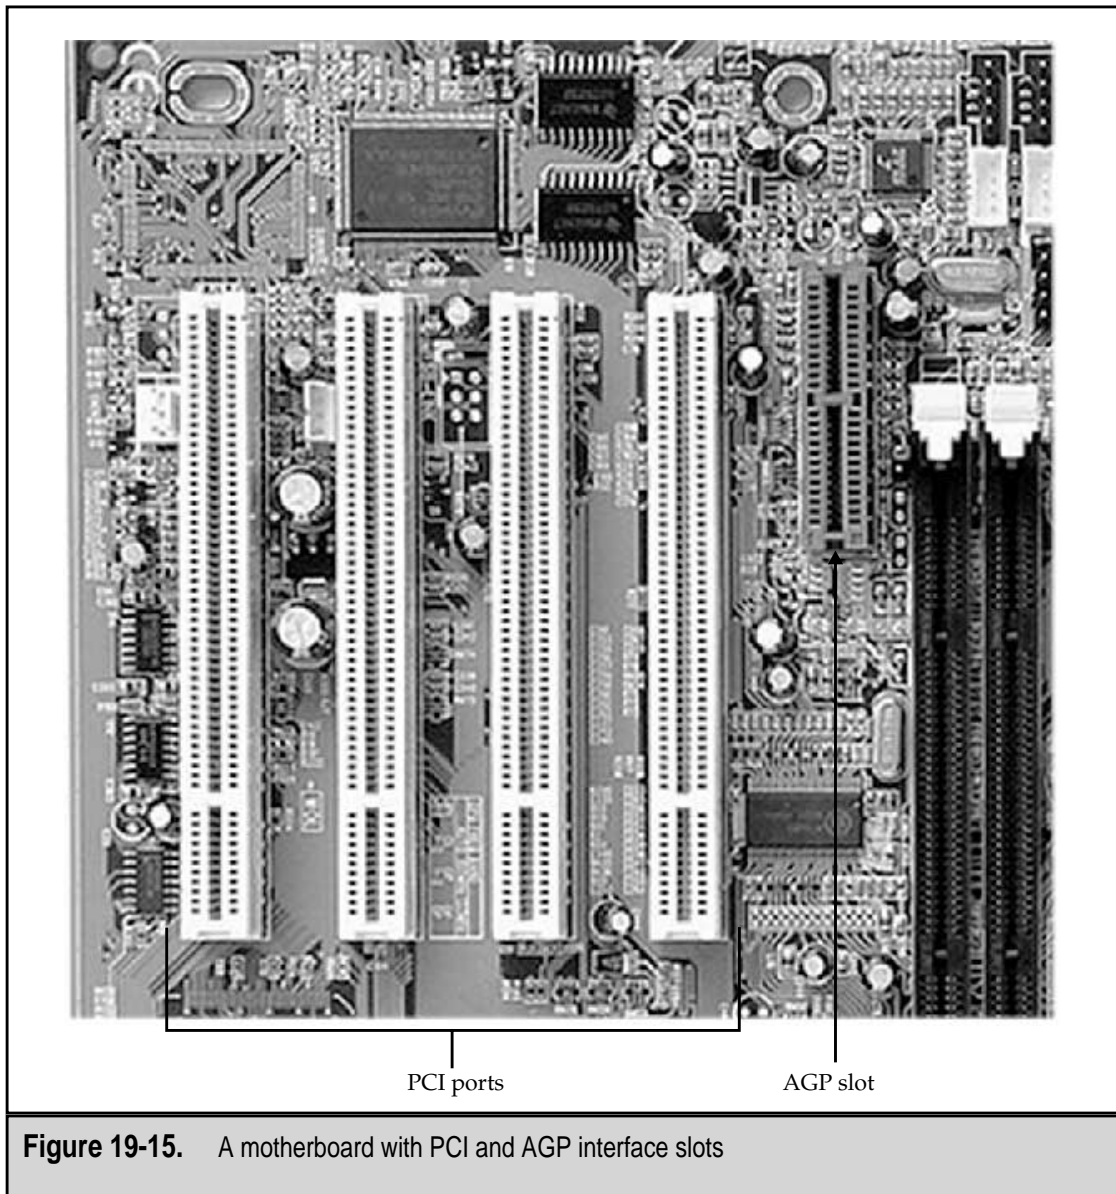

Figure 19-15. A motherboard with PCI and AGP interface slots
- ▼ **Peripheral Component Interconnect (PCI)** Support for the PCI interface bus is included in the system chipset on all Pentium-class computers. PCI is commonly used for 2D graphics cards, sound cards, network interface cards, and other expansion cards that attach directly to the motherboard. Of course, a PCI card slot is required. PCI is a bus structure and as such can support a number of different devices. PCI slots, shown in Figure 19-15, are found on virtually all Pentium-class motherboards boards.
single device. The AGP slot (see Figure 19-15)—there is usually only one on a motherboard—is reserved for the graphics card.